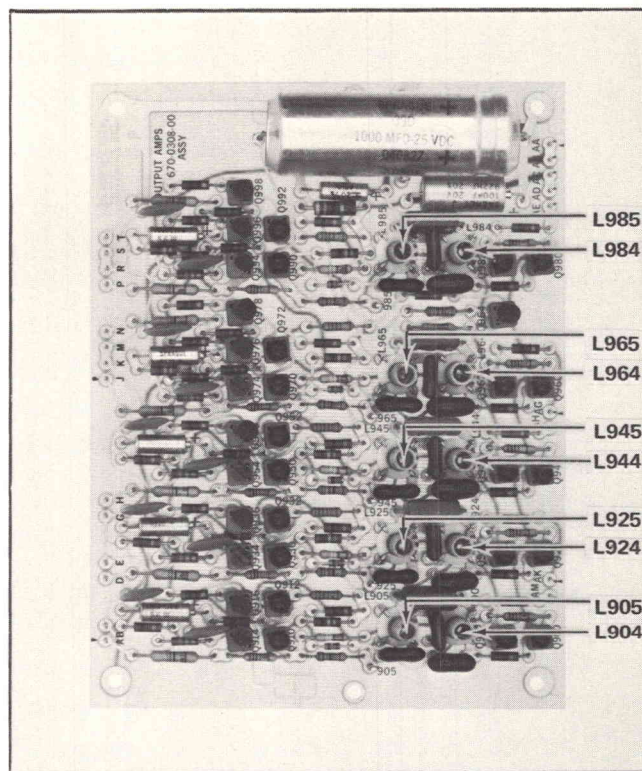

Fig. 5-45. Output Amps board adjustment locations.
o. ADJUST—L964 and L965 (see Fig. 5-45) for the best square corner on the display.